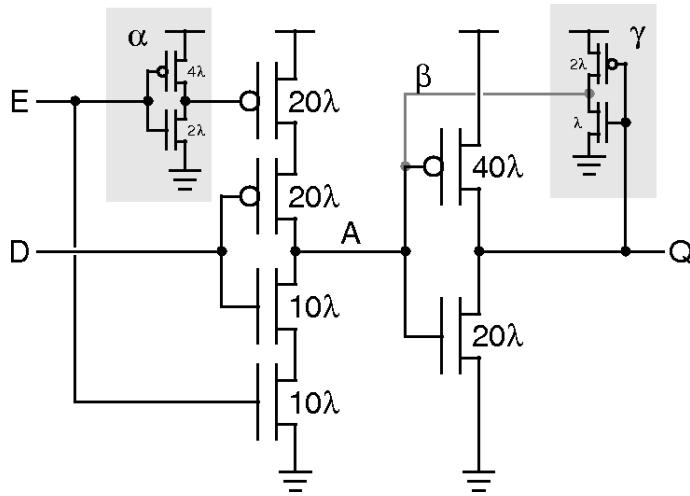

Figure 1: A typical library standard cell schematic.
3. Figure 1 shows a transistor-level schematic for a standard library component. Each transistor has been annotated with its *width* as a multiple of an arbitrary length  $\lambda$ ; the *lengths* of the transistor gates are all the same. The drawn size of the transistors in the figure has no specific meaning; it is for emphasis to reflect their relative widths only. Subsections in this question refer to parts of this figure.
- d) Taking the output of subcircuit  $\gamma$  into account via the wire  $\beta$ , there are two CMOS outputs connected to point A. This is normally a bad idea so why is this legitimate the circuit in figure 1? (3 marks)
- i) Write a (simple) Verilog statement/block which implements the function performed by the circuit in figure 1. (2 marks)